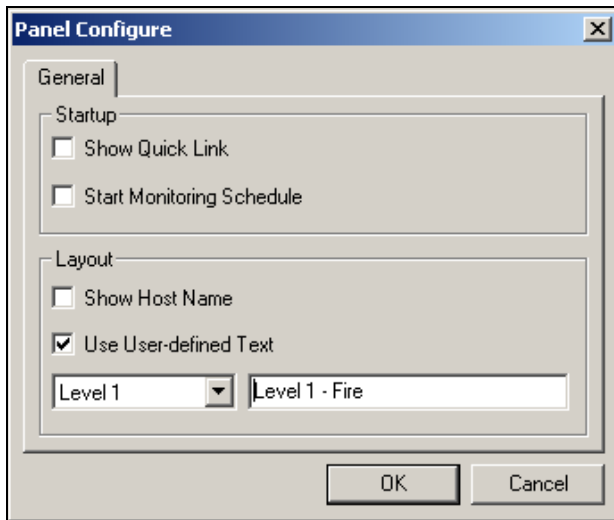

Figure 6-18
- To set the Quick Link window at panel startup, see the **Show Quick Link** option in Figure 6-18.